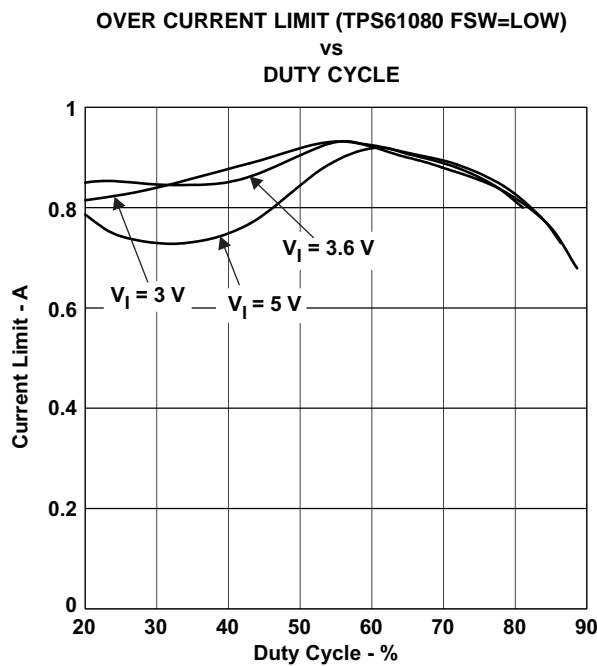
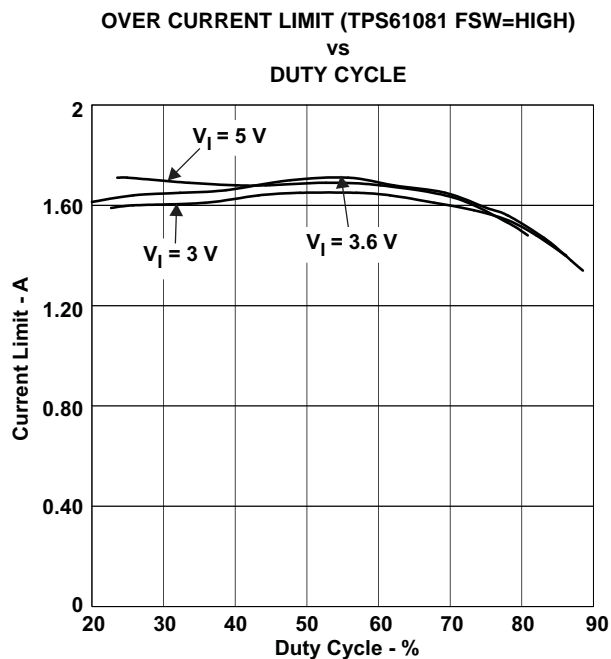

Figure 6.
Figure 9.
(1) VIN = 3.6 V, VOUT = 15 V, Duty cycle = 76%. See Figure 6 to Figure 9 for other operation conditions.
(2) OUT short circuit condition is detected if OUT stays lower than VIN – VSC for 2 ms after IC enables.
To minimize the variation in the overcurrent limit threshold, the TPS61080/1 uses the VIN and OUT pin voltage to compensate for the variation caused by the slope compensation. However, the threshold still has some dependency on the VIN and OUT voltage. Use Figure 6 to Figure 9 to identify the typical over-current limit in your application, and use 25% tolerance to account for temperature dependency and process variations.